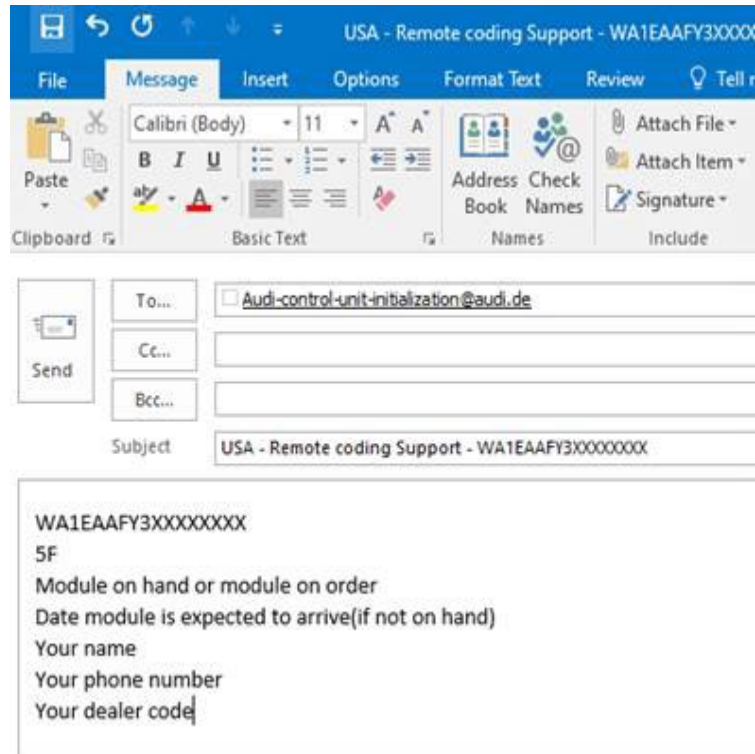

Figure 3: Example email, layout to be used.
2. Compose email as follows (Figure 3):